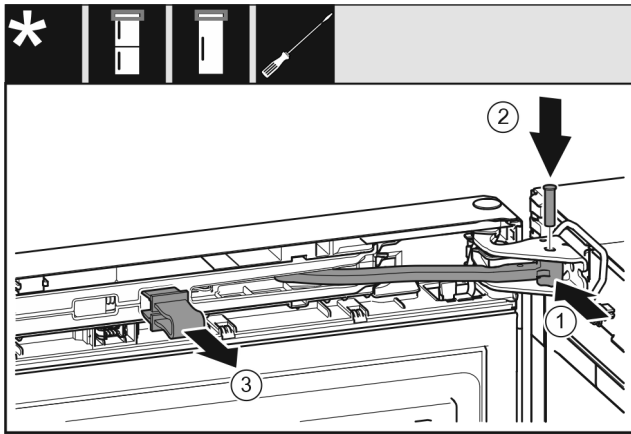

Fig. 24
- ▶ Turn the joint Fig. 24 (1) in the bearing block.
- ▶ Insert thebolt Fig. 24 (2) into the bearing bracket and joint. Ensure that the latching cam is in the groove properly.
- ▶ Remove the safeguard Fig. 24 (3).